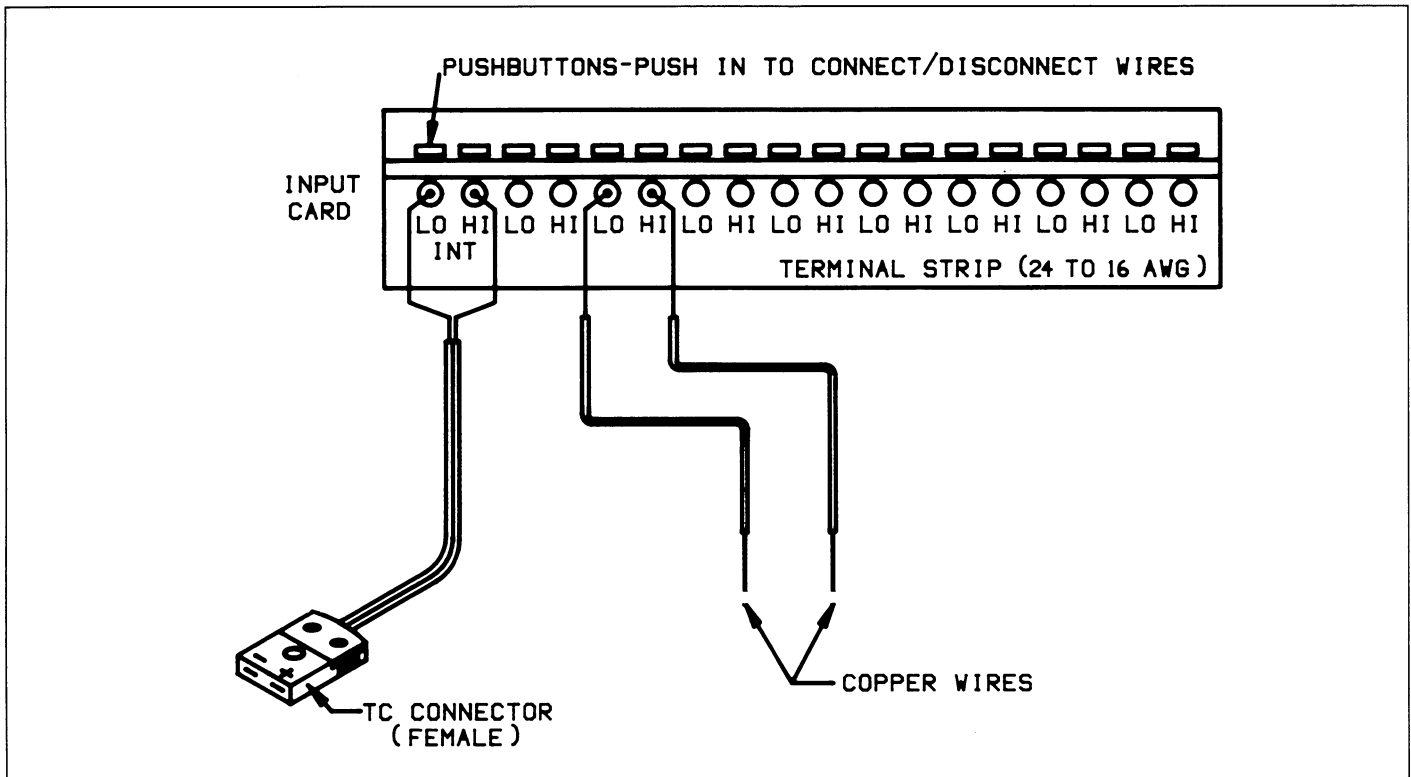

Figure 6-1. Calibration Preparation Setup
2. Using Figure 6-1 as a guide, connect an appropriate female TC connector to the INT terminals of the INPUT CARD. A thermocouple will later be mated to the connector for the purpose of calibrating the internal reference junction. Connect a pair of copper test leads to any other pair of terminals on the INPUT CARD. These leads will be used to short the input for zero calibration and to input 100mV to calibrate gain.